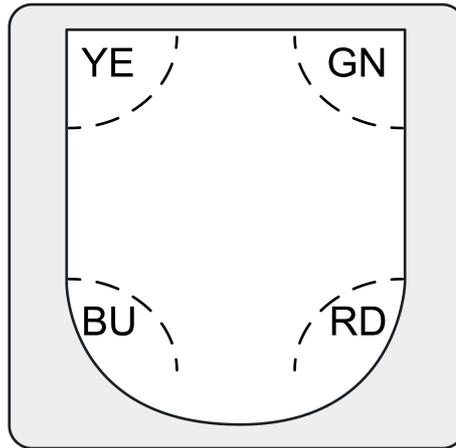

Figure 7: Status LED
Behind the sensor window (4) there are status LEDs for indicating different states of operation(Figure 7).